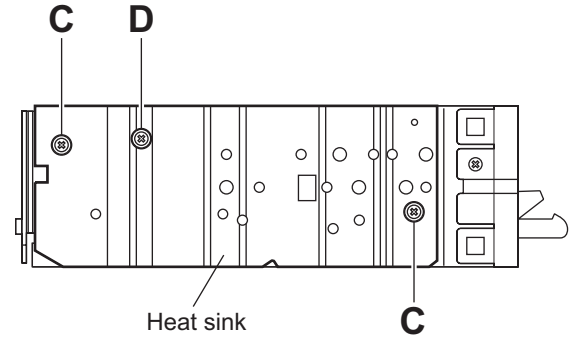

Fig.5
2.1.4 Removing the heat sink (See Fig.5)